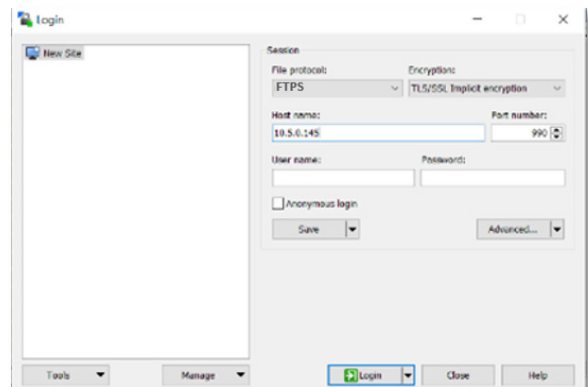

Figure 53: Enter the Digital Analyzer's IP address in the FTPS client connection.
1. On a Windows computer, launch the FTP-supported client and start a new connection with the Digital Analyzer IP address or serial number as shown in **Figure 53**. Ensure the following settings are equivalent in the FTPS client being used: Protocol = FTPS, Encryption = TLS/SSL implicit, Port = 990